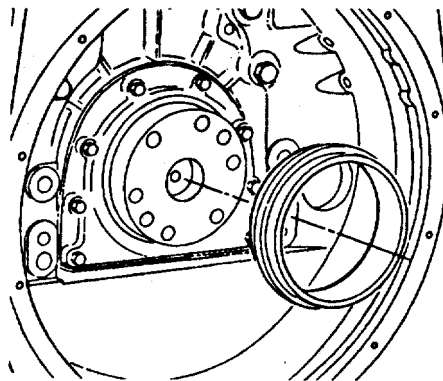

FIGURE 3-95. Installation Sleeve.
- (k) Use the installation sleeve provided with the seal to install the seal on the crankshaft (FIGURE 3-95) .
- (l) Push the oil seal over the installation sleeve onto the crankshaft and remove the sleeve (FIGURE 3-95) .